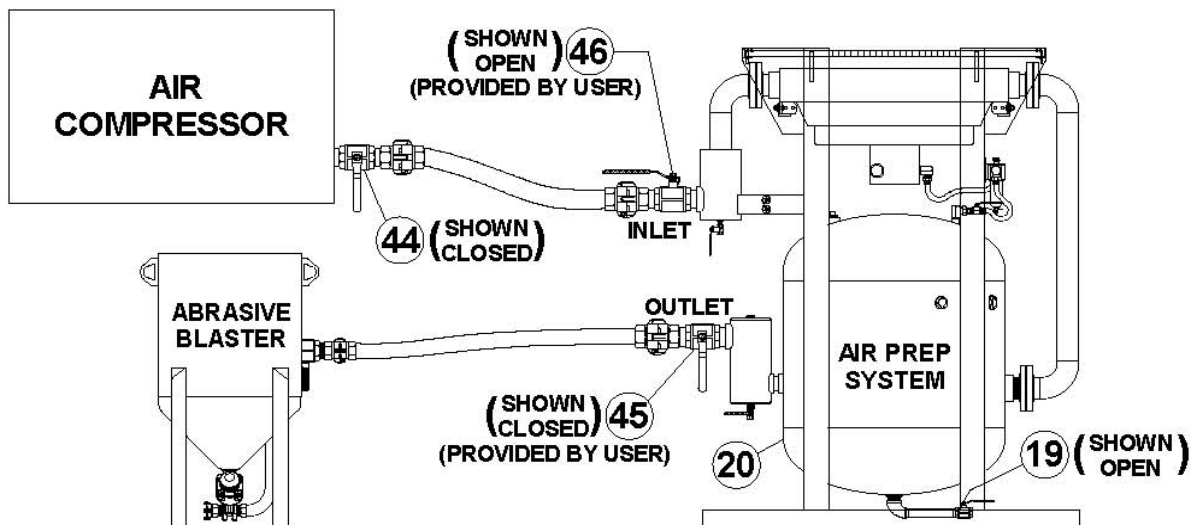

Figure 6.2 – Typical AirPrep System
- 6.2.1. Close the Air compressor outlet ball valve (#44, provided by user). See Figure 6.2.
- 7.2.9. Open outlet ball valve(s) to supply air to the connected equipment (see Figure 6.2).
- 7.3.2 Close all the AirPrep System air outlet ball valves (see Figure 6.2).
- 7.3.3 Turn of the air compressor and/or close the compressor’s outlet valve (see Figure 6.2).